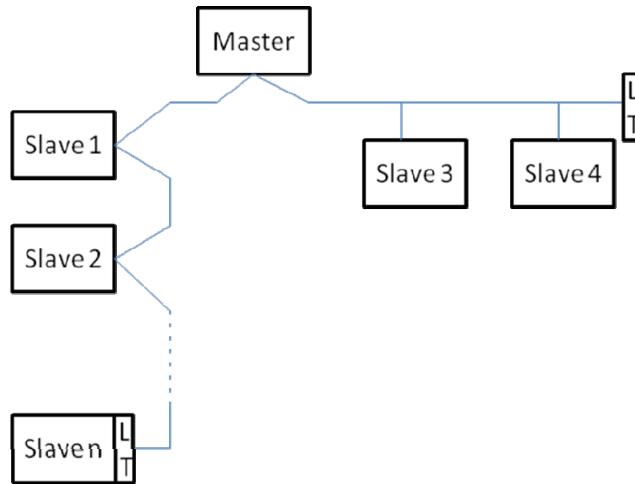

Figure 1: Example of a Modbus network with termination
The maximum number of devices connected to a network without repeaters is 32. As shown in Figure 1, it may be necessary to terminate the line at the end and at the beginning with terminating resistors (LT).